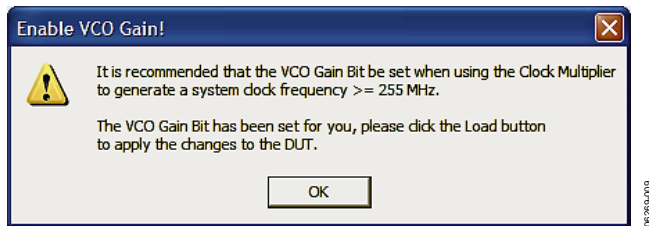

Figure 9.
**VCO Gain** is automatically set when the Ref Clock multiplier is being used to generate a system clock that is greater than 255 MHz. This is done to ensure stability of the Ref Clock multiplier circuitry. A pop-up window appears to alert you to this update (see Figure 9).